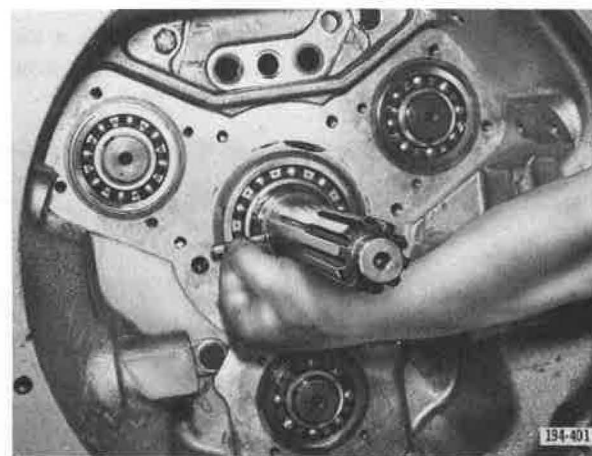

Figure 5-709. Removing Oil Pump Vane
14. Remove oil pump vane from main drive pinion. See **Figure 5-709.**